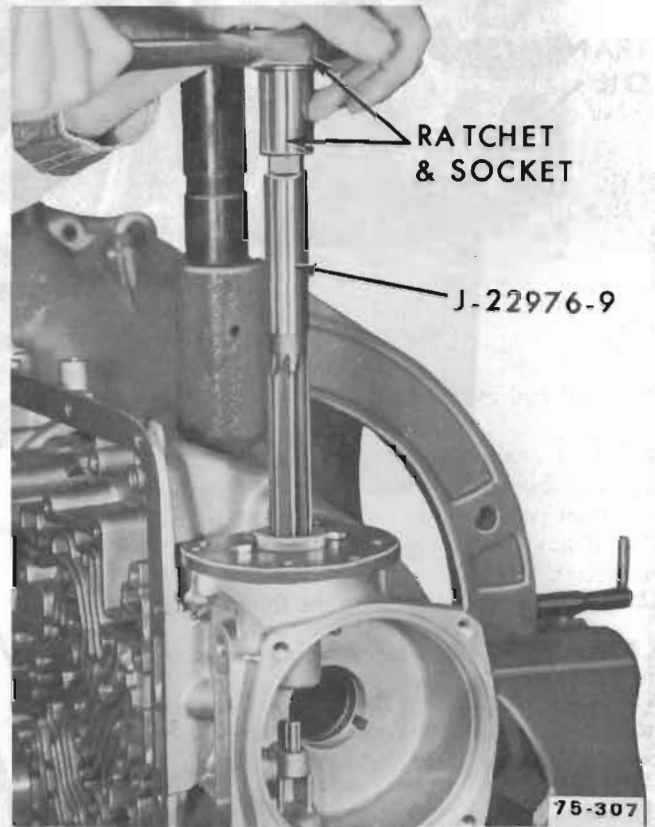

Figure 75-291
- b. Use 5-10 lbs. of feeding force on the reamer. See Figure 75-291.